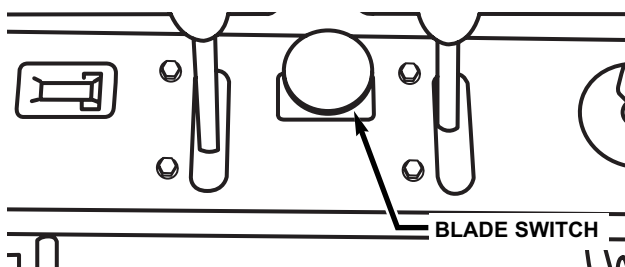

FIGURE 3.2
3.1.4. Check blade switch to insure it works freely. See Figure 3.2.
3. Push blade switch in to "OFF", blades disengaged position and engage parking brake. See Figure 3.2.
2. Pull the Blade Switch up to the "ON" position to engage or turn "ON" the mower blades. See Figure 3.2.